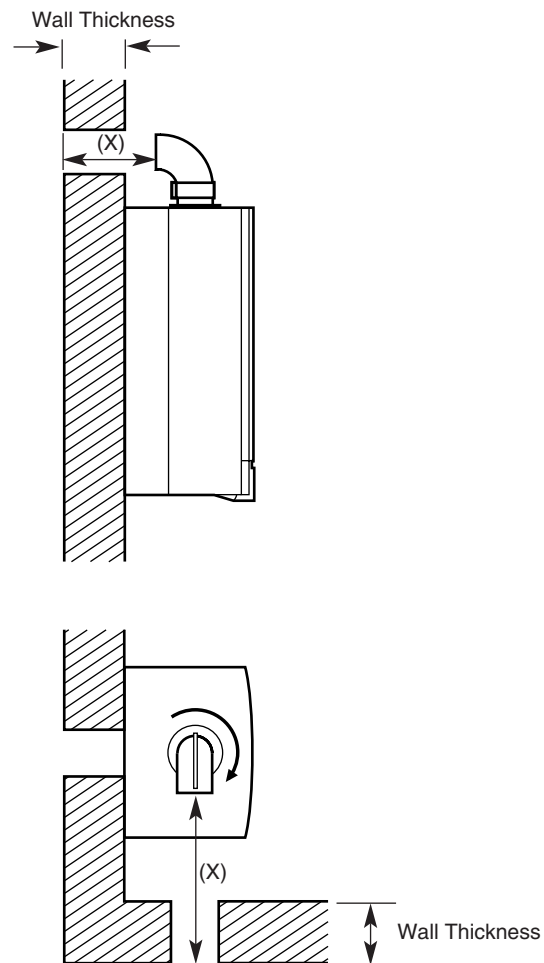

Fig. 20
3. Measure the distance from the outside wall face to the elbow (Fig. 20). This dimension will be known as 'X'.